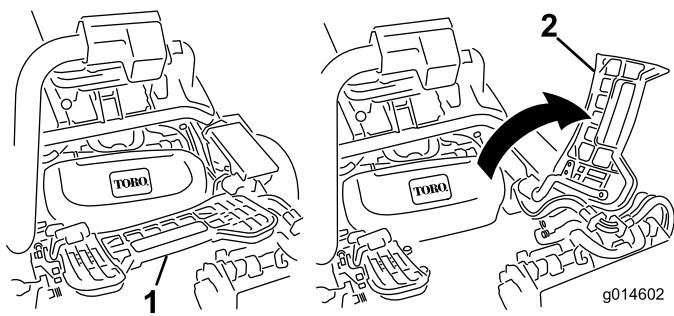

Figure 11
3. If installing the center cutting unit, lift up on the foot rest and swing it up, allowing access to the center cutting unit position (Figure 11).